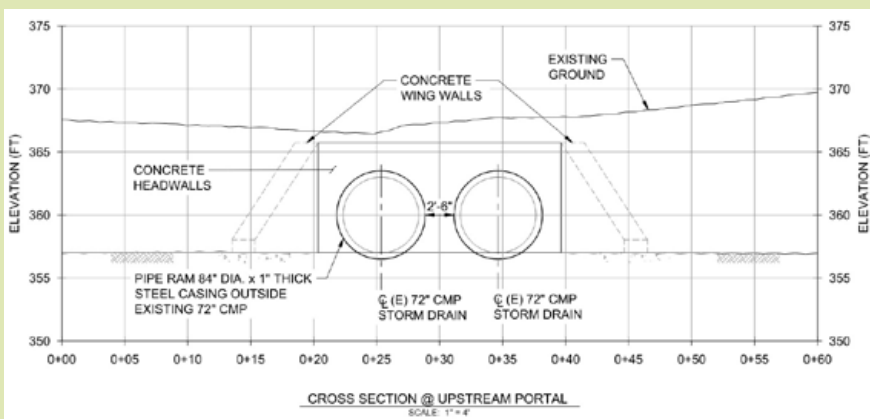
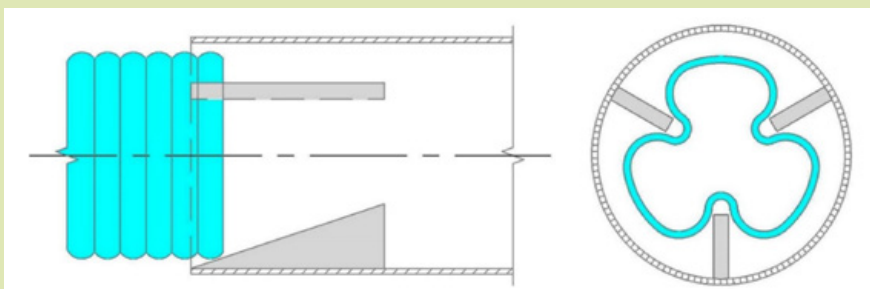

Figure 5-3: Schematic of pipe swallowing alternative
Figure 5-4: Schematic of crimping fins (ASCE, 2020)
This method would involve pipe ramming an 84-inch (or larger) outside-diameter (OD) steel pipe with a one-inch-thick wall around each of the existing CMPs, as shown in Figure 5-3. The leading pipe segment would have both a cutting shoe and tapered internal fins (see Figure 5-4) to help displace soil, reduce drag, and crumple the old CMP, making it easier to remove. Advantages of this method include a smaller staging area, lower environmental impacts, increased hydraulic capacity of the final pipes, and avoiding a jacking approach that would require a robust reaction system. However, there is a significant risk of accordioning the existing CMPs in front of the steel pipes when the new pipes engage the sagging inverts, impeding advance and requiring personnel entry into the pipes to cut out the obstructing CMP. An additional challenge would be the significant difficulty of maintaining an accurate trajectory with the given conditions. Finally, the vibrations from pipe ramming could induce settlement in the soft soil.